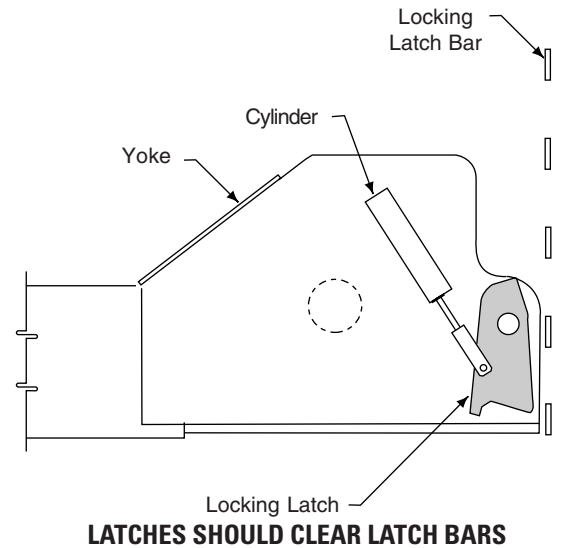

Fig. 24
J. Actuate air valve and check latch operation on all four corners. The locking latches should pull in beyond yoke ends to clear the latch bars located in all four columns, Fig. 24.